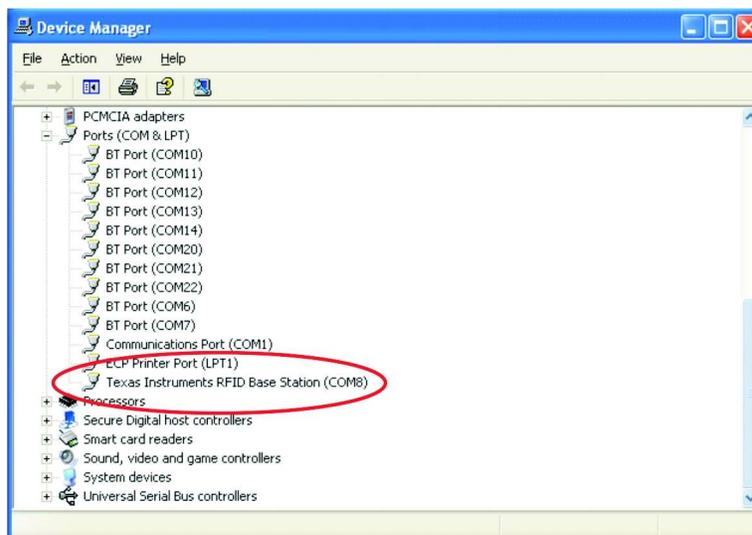
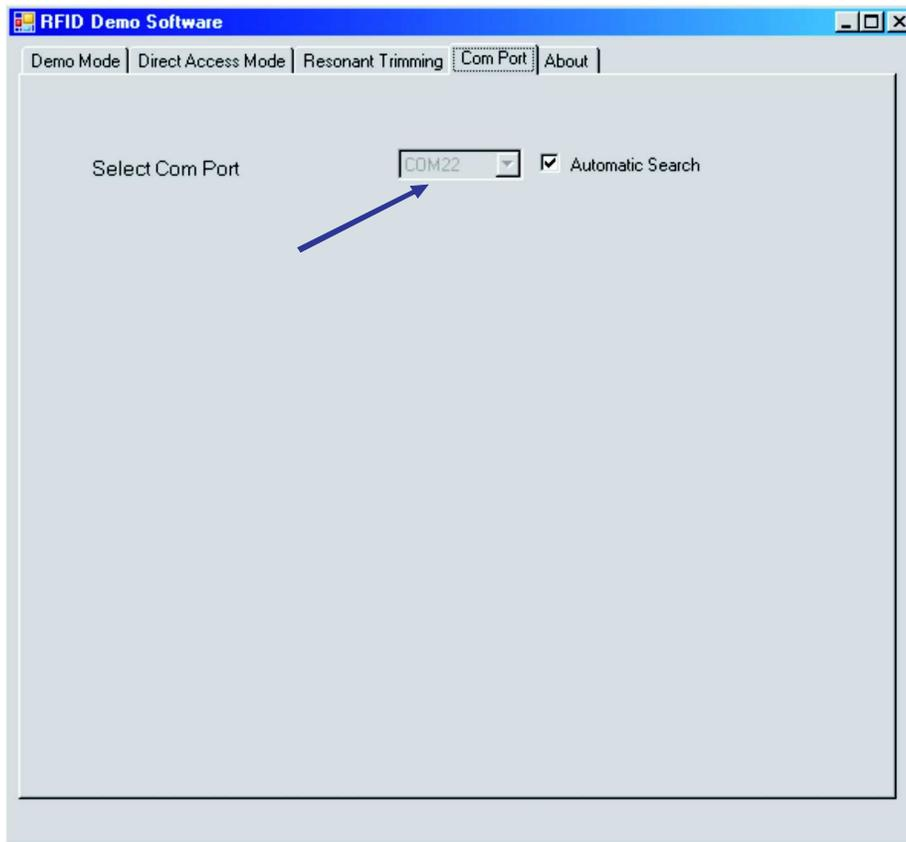

Figure 11. RFID Base Station in Device Manager
Figure 15. RFID Demo Software: Com Port Tab
- Find the right Com Port for the RFID Base Station ("Texas Instruments RFID Base Station") in the Windows Device Manager (see Figure 11).
4. Go to the Com Port tab and choose the right com port for the RFID Base Station (see Figure 15). The base station connects automatically to the right com port on the PC (the right com port can be found as shown in Figure 11).